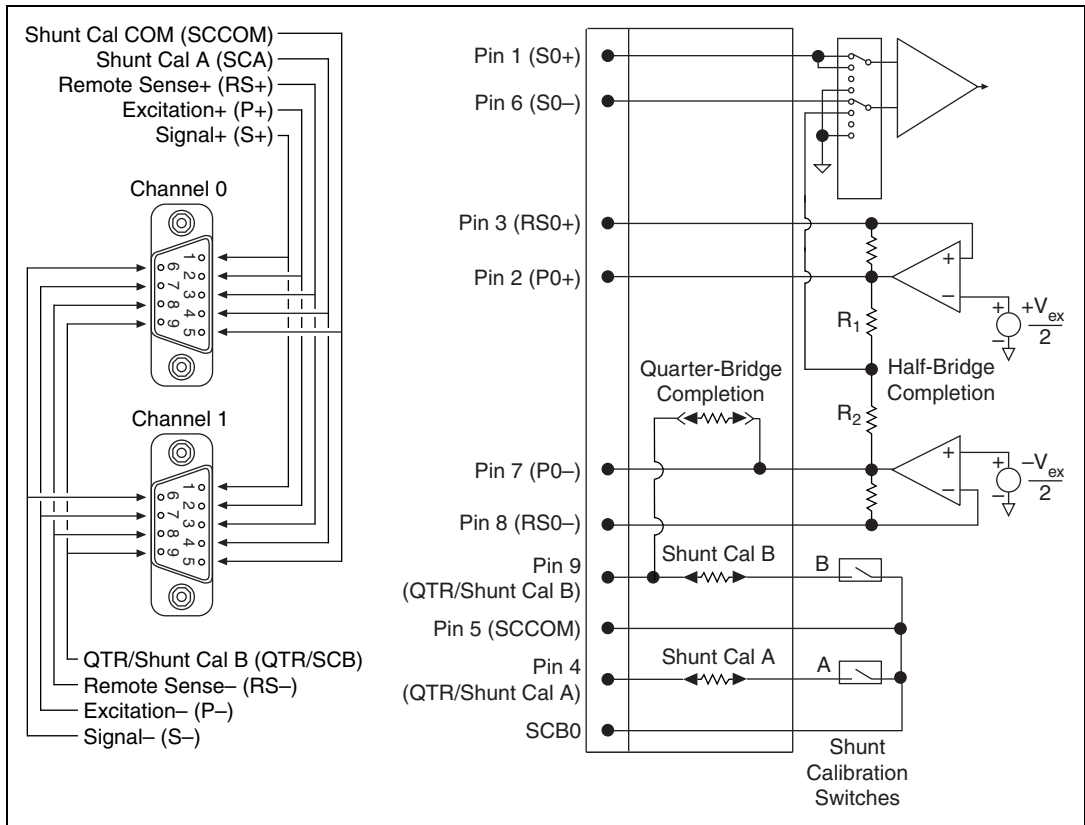

Figure 2. Front Connections
Note A suitable 9-pin D-SUB adapter is recommended for connecting external signals to the analog ports. The input connections on both channels are discussed in this document and are shown in Figure 2.
Figure 2 shows the NI PXI-4220 front connectors.
3. Connect pins S+ and S– of the channel you want to verify to the calibrator output. See Figure 2 for pin layout. If the calibration signal is floating, connect S– to chassis ground.
5. Connect your calibrator to the appropriate analog input, starting with channel 0 at pins S+ and S– inputs. See Figure 2 for pin connections. If the source is not ground referenced, reference it by connecting the S– to the PXI chassis.